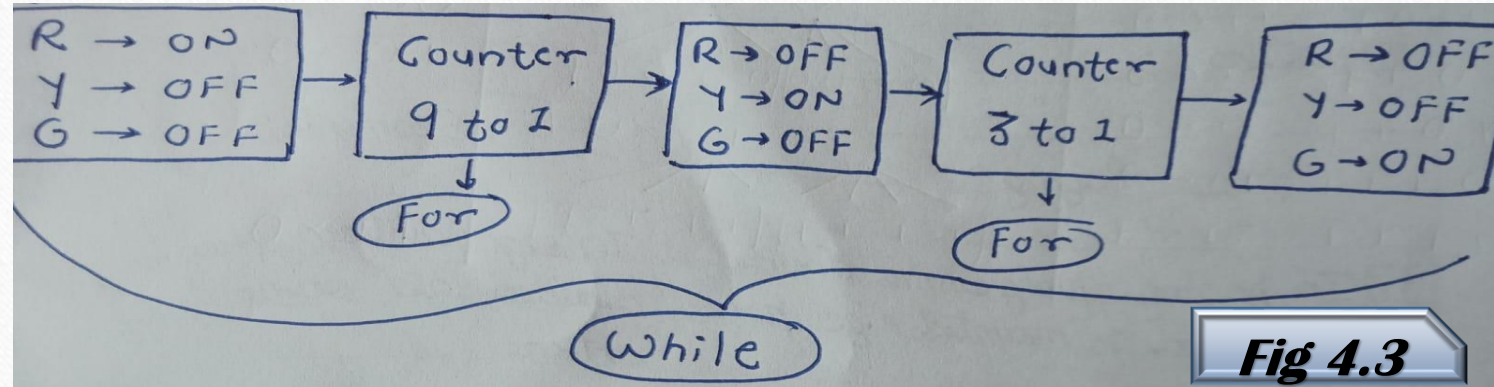

Fig 4.3
- And all this process repeats for the Infinite loop, encapsulated in the while loop.(fig 4.3)